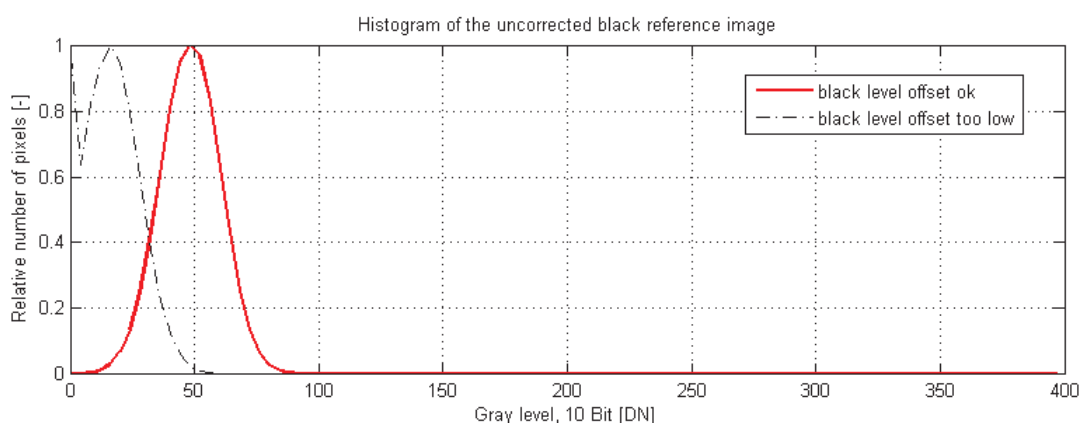

Figure 4.12: Histogram of a proper black reference image for offset correction
- It may be necessary to adjust the black level offset of the camera. In the histogram of the black reference image, ideally there are no grey levels at value 0 DN after adjustment of the black level offset. All pixels that are saturated black (0 DN) will not be properly corrected (see Fig. 4.12). The peak in the histogram should be well below the hot pixel threshold of 252 DN @ 10 bit.